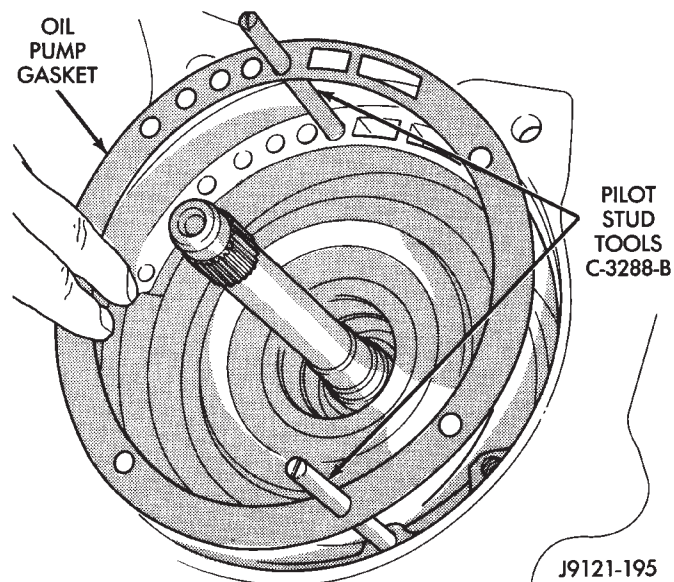

Fig. 177 Installing Pilot Studs And Oil Pump Gasket
(33) Thread two Pilot Stud Tools C-3288-B into bolt holes in oil pump flange (Fig. 177).
(34) Align and install oil pump gasket (Fig. 177).